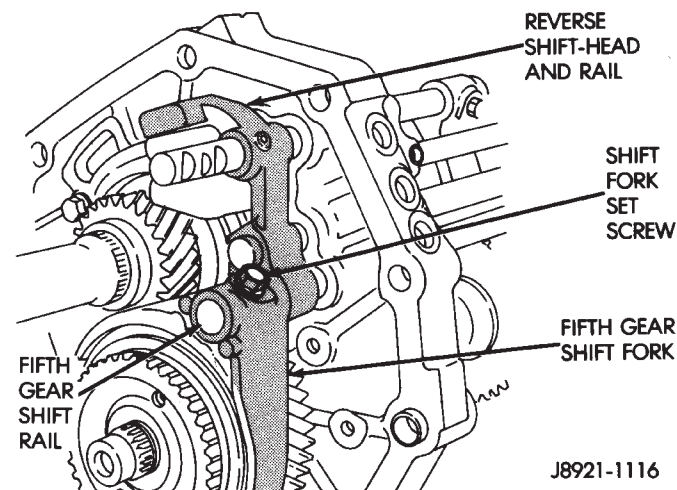

Fig. 108 Shift Fork Set Screw Installation
(12) Align screw holes in shift fork and rail and install set screw (Fig. 108). Tighten screw to 20 N•m (15 ft. lbs.) torque.